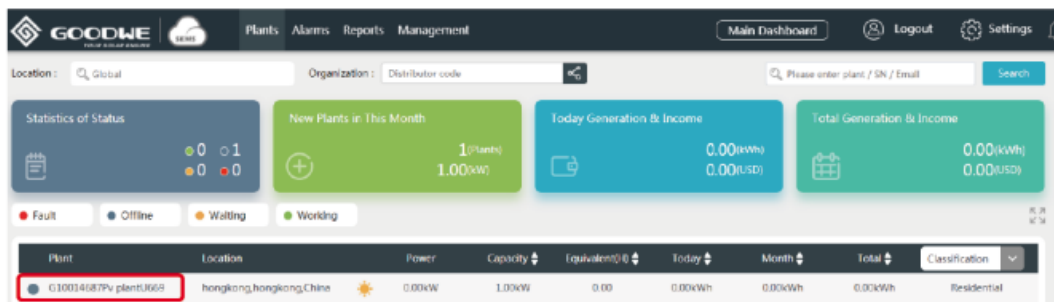

Figure 6.2-1 Check the PV Plant
2. **Step 2:** Click the plant name as figure 6.2-1 below.